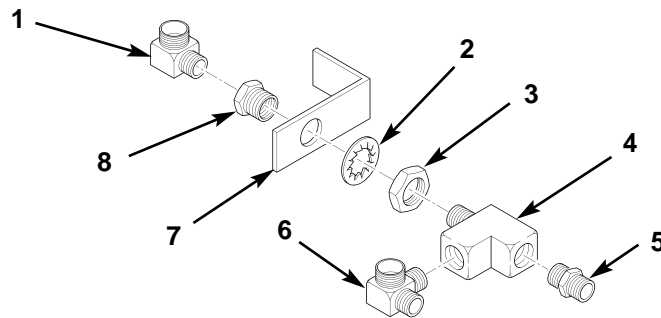

Figure 12. Assembling Front Crossmember Air Block.
1. Install bulkhead fitting (figure 12, item 8) on front crossmember bulkhead fitting mount (figure 12, item 7) with new lockwasher (figure 12, item 2) and nut (figure 12, item 3).
2. Install elbow (figure 12, item 1) and tee (figure 12, item 4) on bulkhead fitting (figure 12, item 8). Install elbow (figure 12, item 6) and adapter (figure 12, item 5) on tee (figure 12, item 4).